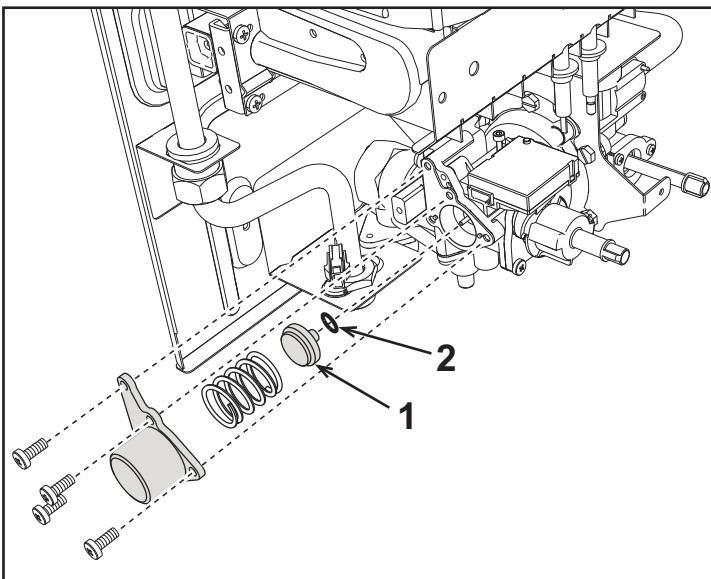

fig. 8
- Remove the spring and replace the modulation cone (ref. 1 - fig. 8) with one suitable for the new type of gas, making sure the gasket (ref. 2 - fig. 8) is correctly positioned.